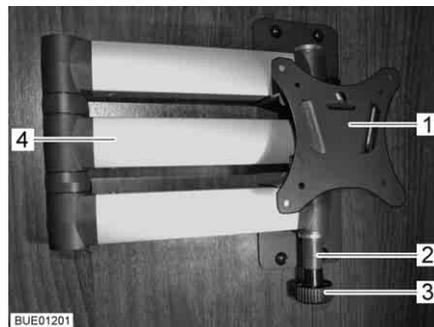

Fig. 55 Holder with jointed arm
- Pull the release knob (Fig. 55,3). The jointed arm (Fig. 55,4) is unlocked.
- Turn the flat screen back into the original position until the holder (Fig. 55,1) engages in the lock (Fig. 55,2).